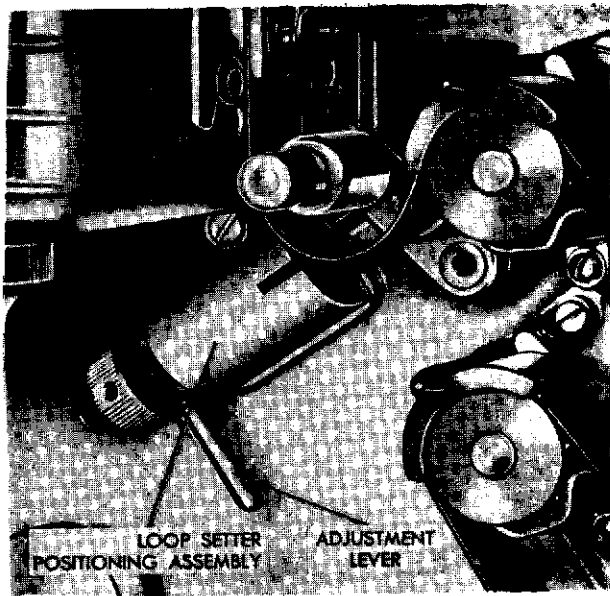

Figure 1-21. Loopsetter Positioning Assembly
b. Place the index finger under the upper loop of film and gently pull upward on the film, meanwhile watching the projected picture on the screen. If the projected picture remains entirely visible and steady, no other adjustment of the loopsetter positioning assembly is required. However, if the picture is not steady but moves in a rapid, uneven manner, so as not to be visible, and the projector makes a clicking noise, turn the front positioning adjustment lever (figure 1-21) upward or downward one notch at a time until the picture is visible and the clicking noise is stopped.